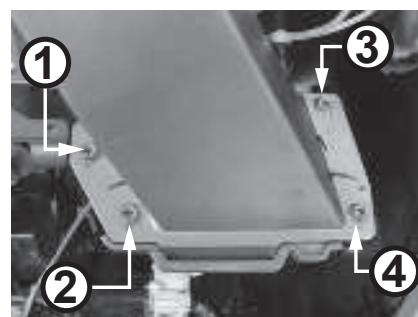

Figure 103 - Remove fan assembly screws
- 11** Locate the four (4) screws securing the fan assembly to the burner assembly as shown in Figure 103. Use a Phillips screwdriver to remove the screws. Place the screws aside in a safe place for reinstallation.